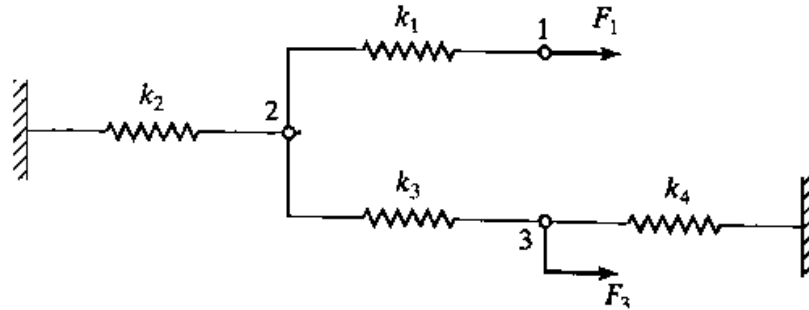

Fig. 1
- Determine the displacements of the nodes of the spring system Shown in the Fig.1. if, $K_1 = 40$ N/mm, $K_2 = 50$ N/mm, $K_3 = 60$ N/mm, $K_4 = 80$ N/mm, $F_1 = 100$ N and $F_2 = 150$ N. [6M]